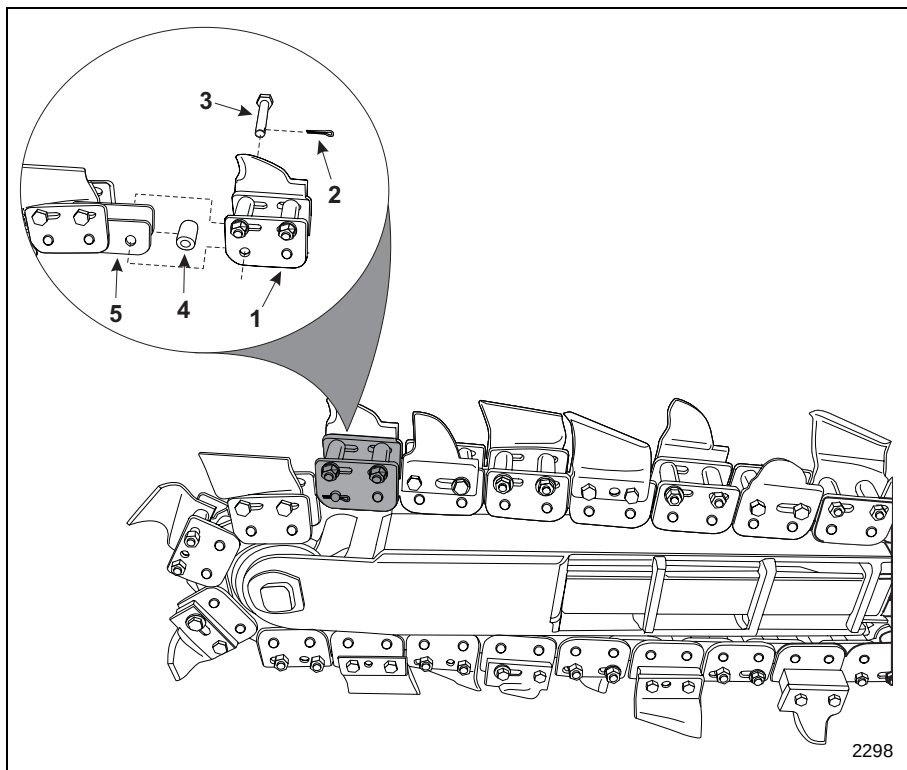

Figure 22 Auger Drive Shaft
1. Inspect the chain and locate the master link (Item 1, **Figure 22**), which will have a removable pivot pin and cotter pin instead of two bolts.
3. Remove the cotter pin (Item 2, **Figure 22**) from the pivot pin (Item 3, **Figure 22**) and then remove the pivot pin.
4. Remove the spacer tube (Item 4, **Figure 22**) from the chain links (Item 5, **Figure 22**).